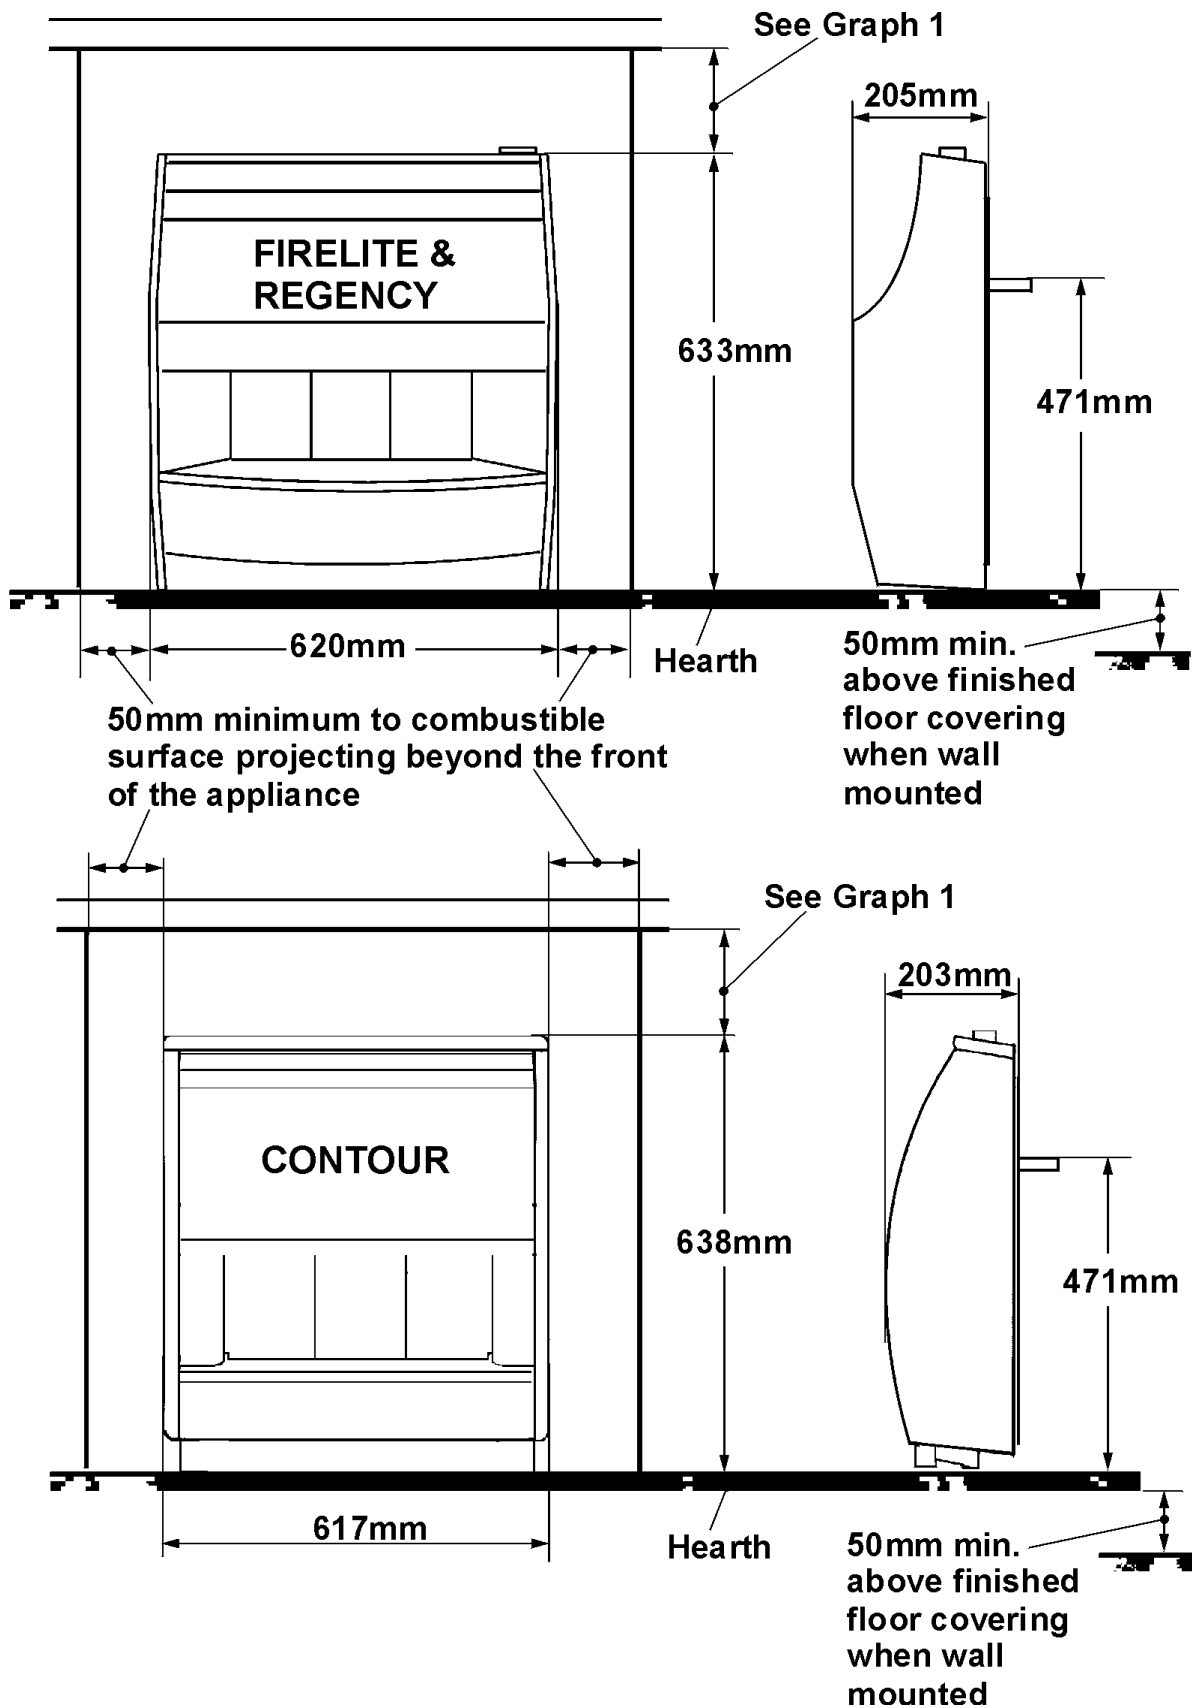

Figure 1. Dimensions & clearances
4.6 The minimum allowable distance from the outside of the appliance case to a corner wall having combustible material or any other combustible surface which projects beyond the front of the appliance is 50mm at either side. See figure 1. No side clearance is necessary to non-combustible surfaces.
The bottom of the appliance must be at least 50mm above the finished floor covering. See figure 1. This requires the top of the opening to be at least 575 mm above the finished floor covering. Any opening visible below the appliance may be closed in but the depth of the catchment space within the wall opening must be as shown in figure 2.